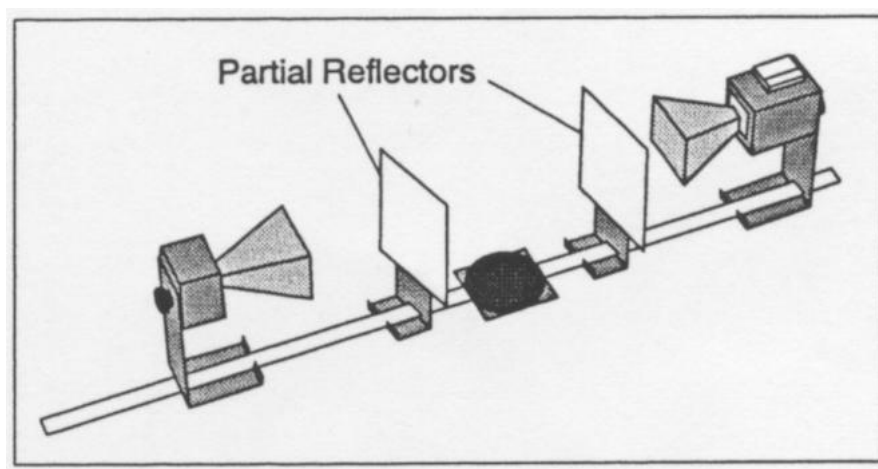

Figure 5: Fabry-Perot interferometer.
A Fabry-Perot interferometer consists of two partial reflectors facing one another, see Figure 5. A maximum signal at the receiver indicates that all the waves passing through the reflectors are in phase. This occurs when the spacing of the two reflectors is such that a wave bouncing back and forth between the reflectors accumulates a phase change of $2n\pi$ over one round trip, where n is an integer.
9. Set two partial (i.e. wooden) reflectors between the transmitter and receiver units on the goniometer. Set the transmitter-receiver distance to about 80 cm, see Figure 5. Adjust the receiver controls to obtain a near full scale reading. Become familiar with the effects of changing the distance between the two reflectors. Observe the relative maxima and minima. Set the distance between the reflectors to give a maximum reading. Record this initial inter-reflector distance, d_i .